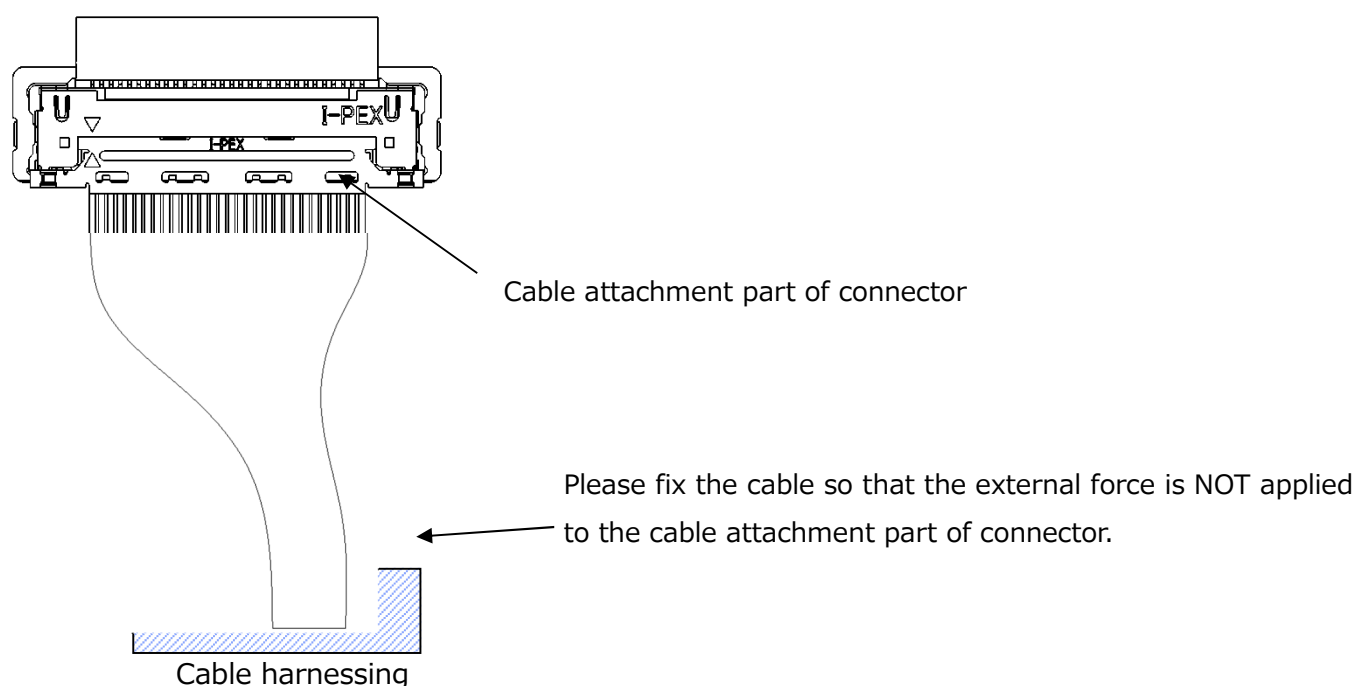

Fig.23
- Continuous force of the direction shown in black arrow in Fig. 23 can damage connectors or cause the coming off from receptacle connector. Please be careful NOT to apply such force.